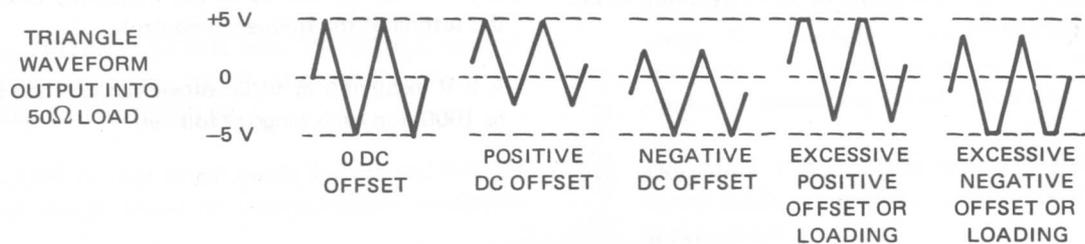

Figure 2-6. DC OFFSET Control
9. Select the desired polarity of dc offset and the amount of offset using the DC OFFSET control. Offset voltage plus peak voltage cannot exceed the voltage range limit, ±5 volts in the 0 dB range. If an excessive amount of dc offset is used, waveform clipping may be observed (see Figure 2-6). Both signal and offset are attenuated by the attenuator.